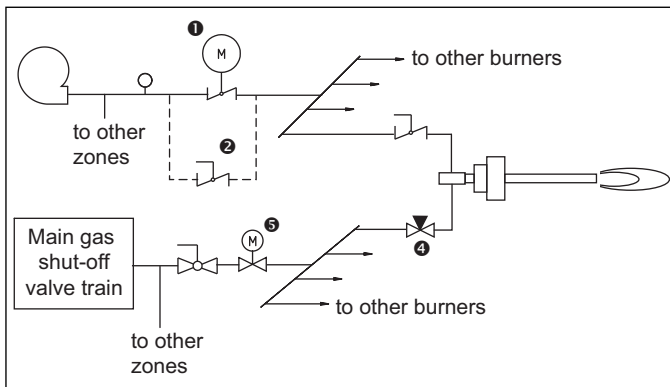

Figure 3.2. Modulating Gas Control. Constant Air
Control takes place via 4 – 20 mA output current which proportionally opens or closes a motorized valve ⑤, which then controls gas supply to the entire group. See Figure 3.2.